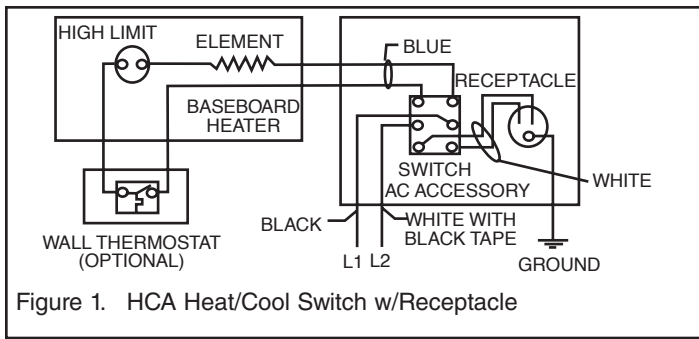

Figure 1. HCA Heat/Cool Switch w/Receptacle
3. Connect center switch leads (black for switches rated 240V, one white and one black for switches rated 120V), to the power supply wires and connect the blue leads through the thermostat to the heater wire as shown in the wiring diagram, (Figure 1).